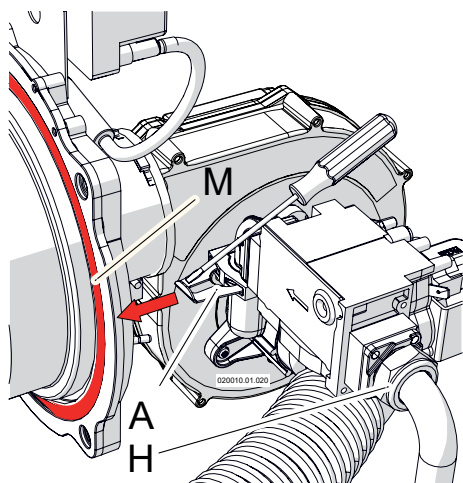

Figure 13-3 - Dismantle the gas valve
- 4.- Unscrew nut "H" as per Figure 13-3;
- 5.- With the help of a screwdriver, remove spring "A" (see Figure 13-3);
- 8.- Reinstall the gas valve, paying close attention to the o-ring "L" of Figure 13-4 and to the gasket between gas valve and nut "H" of Figure 13-3;
- 9.- Insert again the spring "A" of Figure 13-3;
- 10.- Tight nut "H" of Figure 13-3;
- 12.- Check for any gas leaks on nut "H" of Figure 13-3;